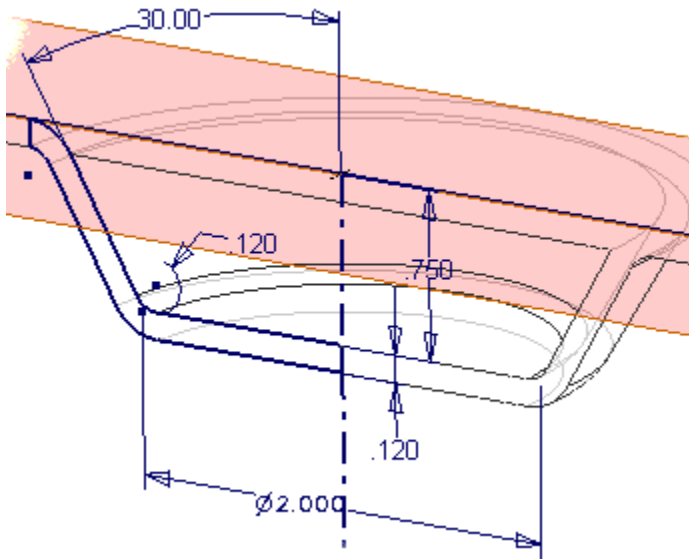

Figure 17: New sketch and visible Sketch3.
2. In the browser, expand Revolution1, Right-click Sketch3 and select Visibility from the pop-up menu. Your view should match the one shown in Figure 17.